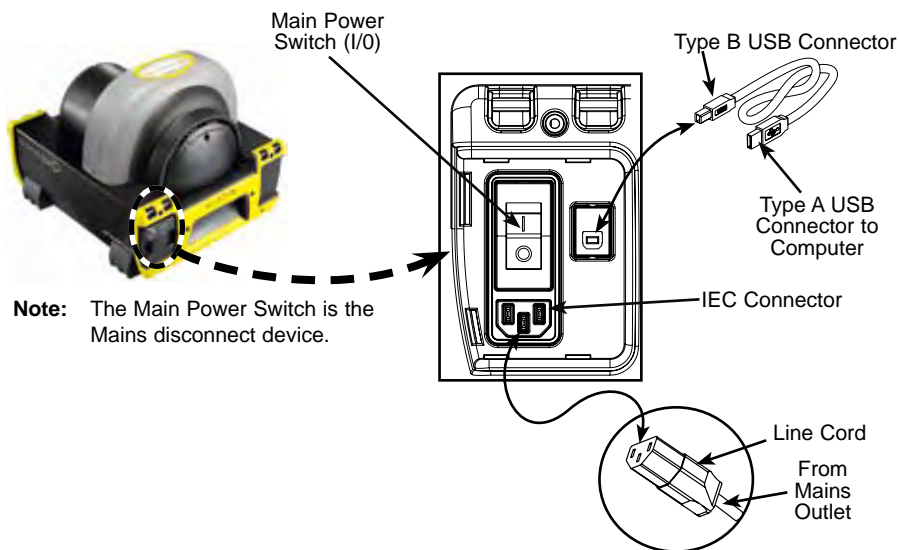

Figure 5. ScanX Connections
Refer to Figure 5 and perform the following procedure to connect the ScanX for operation to a computer for the first time.
Refer to Figure 5 and perform the following procedure to reconnect the ScanX to a previously initialized computer for normal operation using Mains AC power.
1. Make sure the associated ScanX is correctly connected as shown in Figure 5.
2. Place the power rocker switch to the ON (I) position.